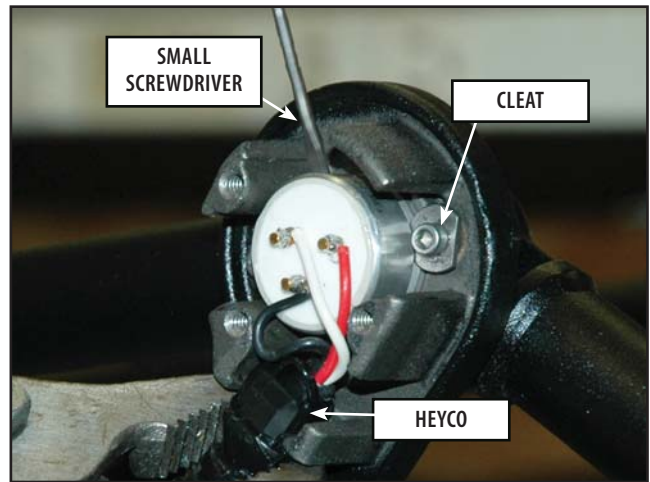

FIGURE 6.10
4. Using a 3/32" Allen wrench remove the cleat screw. **Refer to Figure 6.10**
5. Using a Heyco Tool, squeeze the sides of the Heyco and pull out to remove. **Refer to Figure 6.10.**
6. Using a small Flathead screwdriver positioned behind the Potentiometer, apply just enough pressure to free the Potentiometer. **Refer to Figure 6.10.**